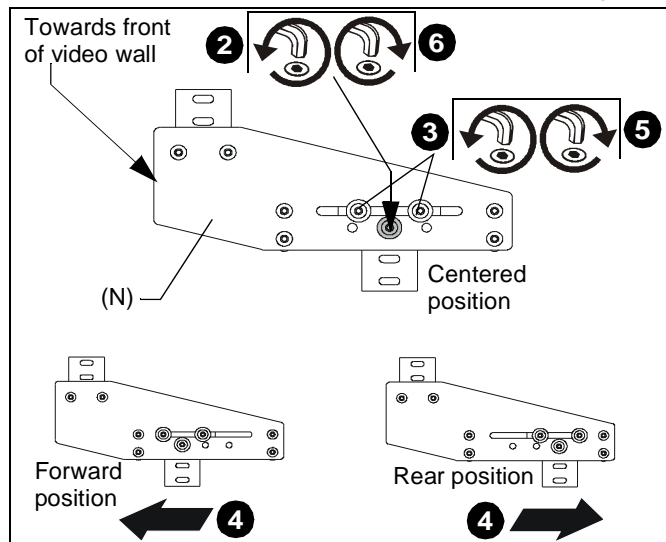

Figure 1
- Loosen and remove fastener and washer from center hole on each side of array offset (N). (See Figure 1)
- Loosen two outside fasteners on each side of array offset (N).
- Slide offset to appropriate position. (See Figure 1)
- Install and tighten fastener with washer (removed in Step 2) into appropriate hole on each side of offset. (See Figure 1)